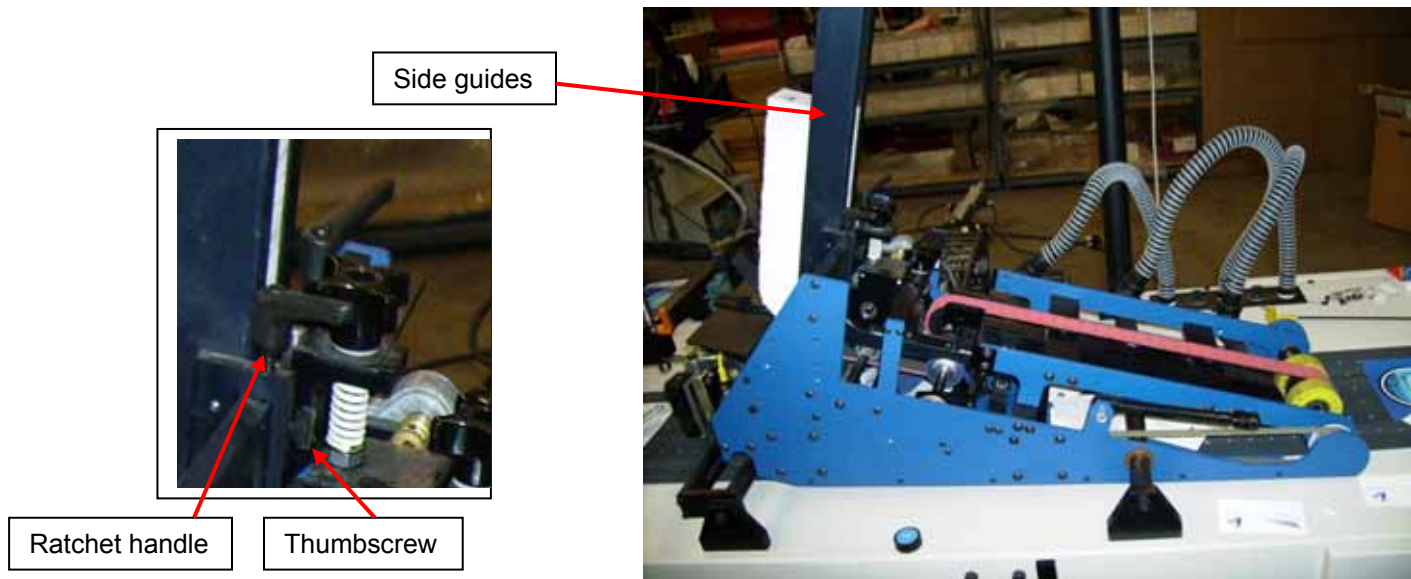

Figure IV-18
5. Remove the side guides (left and right hand) from its mounting. See figure IV-18.